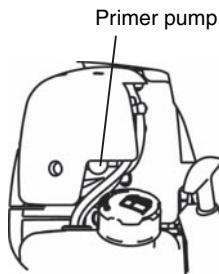

Figure 2
- (3) Continue to push the primer pump until fuel comes into the primer pump (Figure 2).